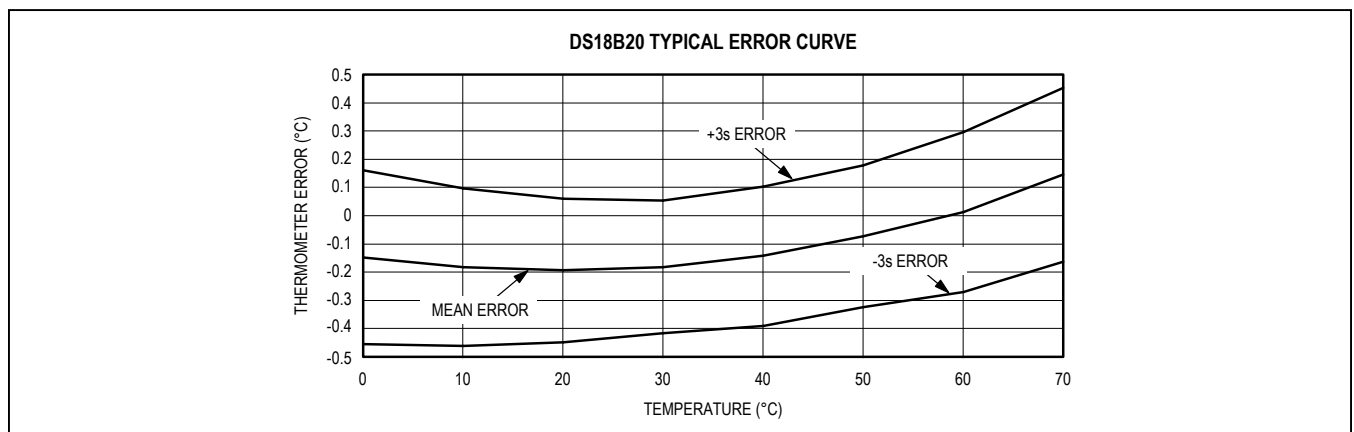

Figure 1. Typical Performance Curve
- Note 3:** See typical performance curve in Figure 1.